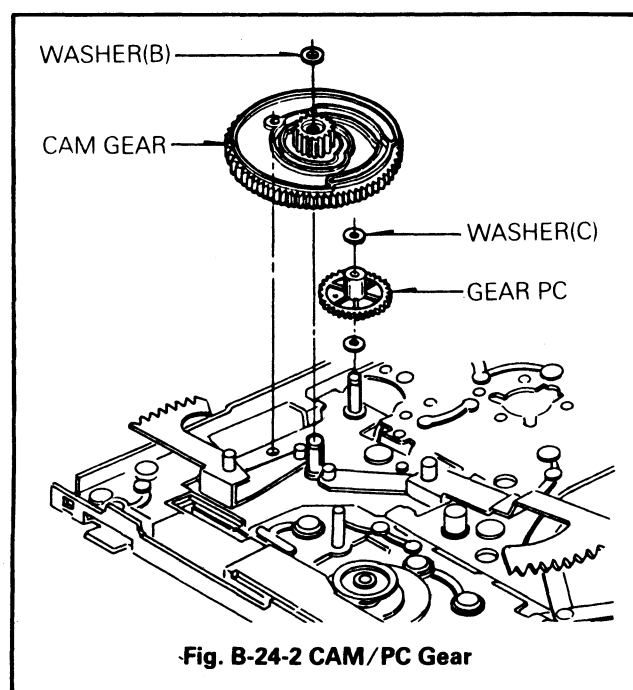

Fig. B-24-2 CAM/PC Gear
## 24. Cam Gear/Rack Gear T/Rack Gear FL(Fig. B-24-2)
- 2) Remove the washer(B), and then remove the Cam Gear (Fig. B-24-2).